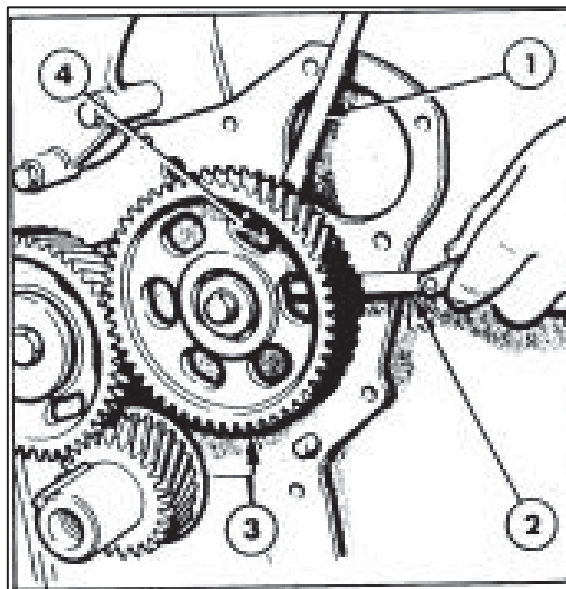

Fig. C2.31 Measuring the Camshaft End Float
4. Check the camshaft end float as shown in fig. C2.31